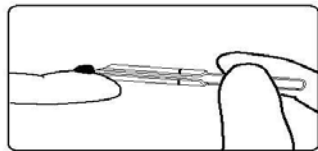

Figure 4
7. Place the tip of the blood collection tube into the blood sample and make sure the tube is slightly lower than the blood sample so that the blood will automatically flow into the tube. Fill the tube with blood sample until it reaches the black line (Figure 4). If there is insufficient blood sample, massage near the site again to obtain more blood flow and fill the collection tube to the black line.